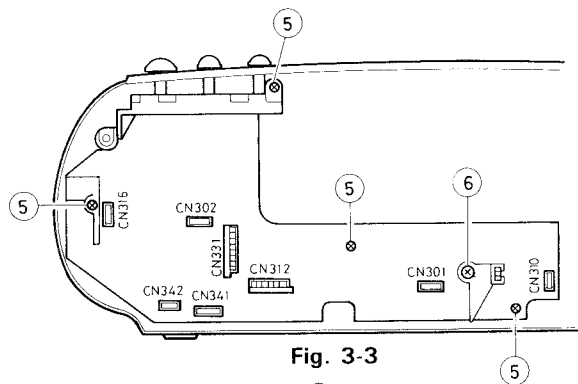

Fig. 3-3
- Remove CN331 from the amplifier circuit board. See Fig. 3-3.)
- Remove motor/leaf switch wire CN302 that leads to the amplifier circuit board. (See Fig. 3-3.)
- Remove the 4 screws ③ of the mechanism assembly. Then remove the head wire from CN301 of the amplifier circuit board. (See Fig. 3-3.)
2. Remove the 4 screws (5) that fastening the circuit board. (See Fig. 3-3.)
3. Remove the screw (6) fastening the recording arm.